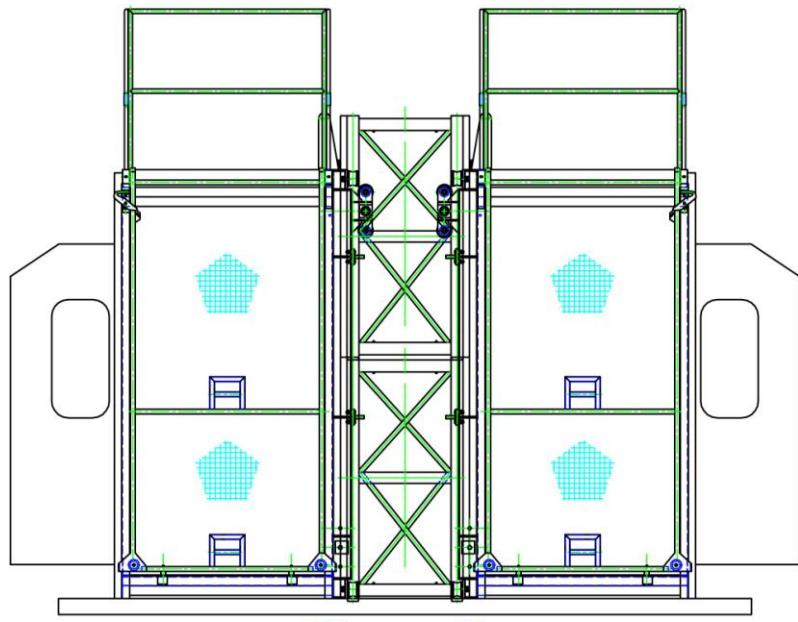

Figure 3
4.4.2 The same way on another cage.(see figure 3)